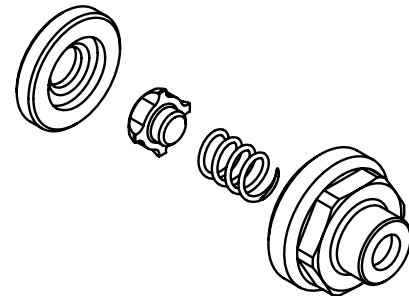

FIG. 15
8. Install check valve (812) and spring (813) into the seat then install cap (806). See FIG. 15 for orientation of parts.